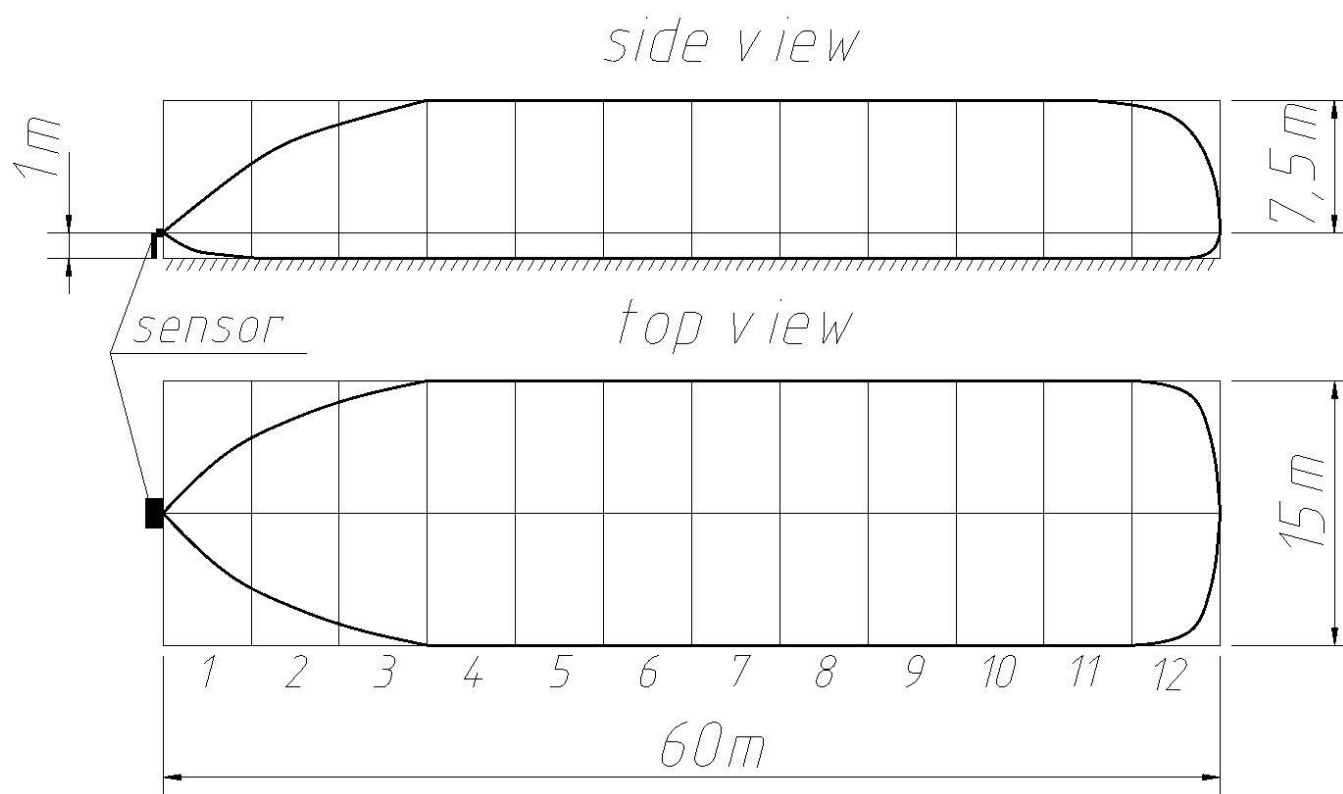

Fig. 8.1 Detection zone parameters of the sensor FM-60 (VOLUME)
8.3.5. Fix the sensor at a horizontal position (relative to the ground) with the bolt 9. The model of the detection zone form (VOLUME, CURTAIN, and FAN) and its dimensions are shown in fig. 8.1, 8.2, and 8.3. There is a subzone's number (1-12) below.